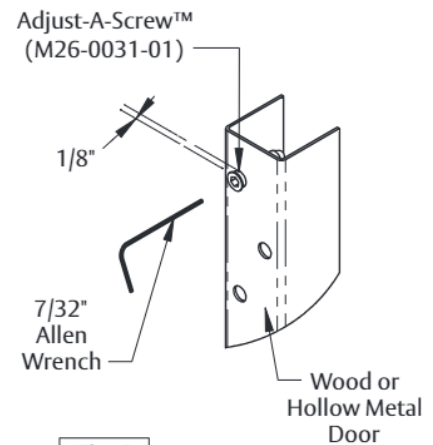

Fig. 4
4. Drive all Adjust-A-Screws in until approximately $1/8$ " from edge of door (Fig 4). (*Adjust-A-Screw will self tap*)
5. Drive all Adjust-A-Screws in until approximately $1/8$ " from edge of door (Fig 4).